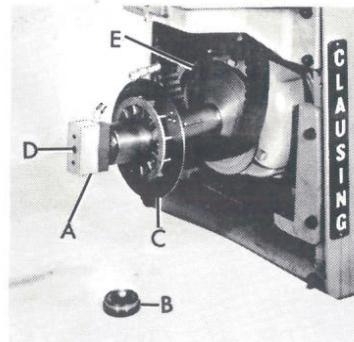

FIGURE 5
4. Slide outer half of variable pulley (C, fig. 5) with hydraulic cylinder assembly (A) onto shaft (D) and inner half of variable pulley (E) being sure key and key way in pulley line up.
5. Slide outer bearing assembly, consisting of bearing holder, outer bearing, bearing spacer and locknut (B, fig. 5) onto shaft (D).